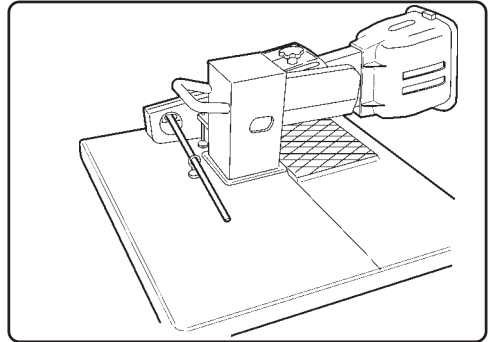

Fig. 12
- Insert the rocker arm into the working plane's eyelet and in the inner slot of the lever that has just been assembled (Fig.12).